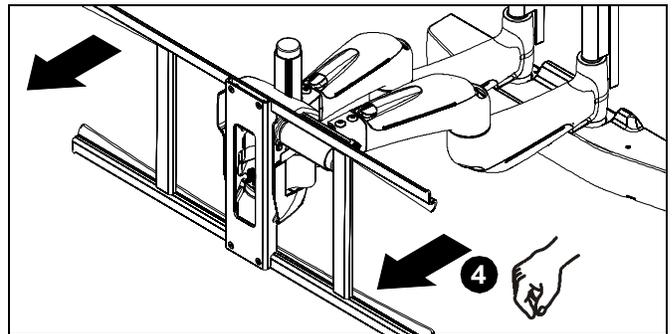

Figure 19
4. Carefully pull PXR arms out from PAC502. (See Figure 19)